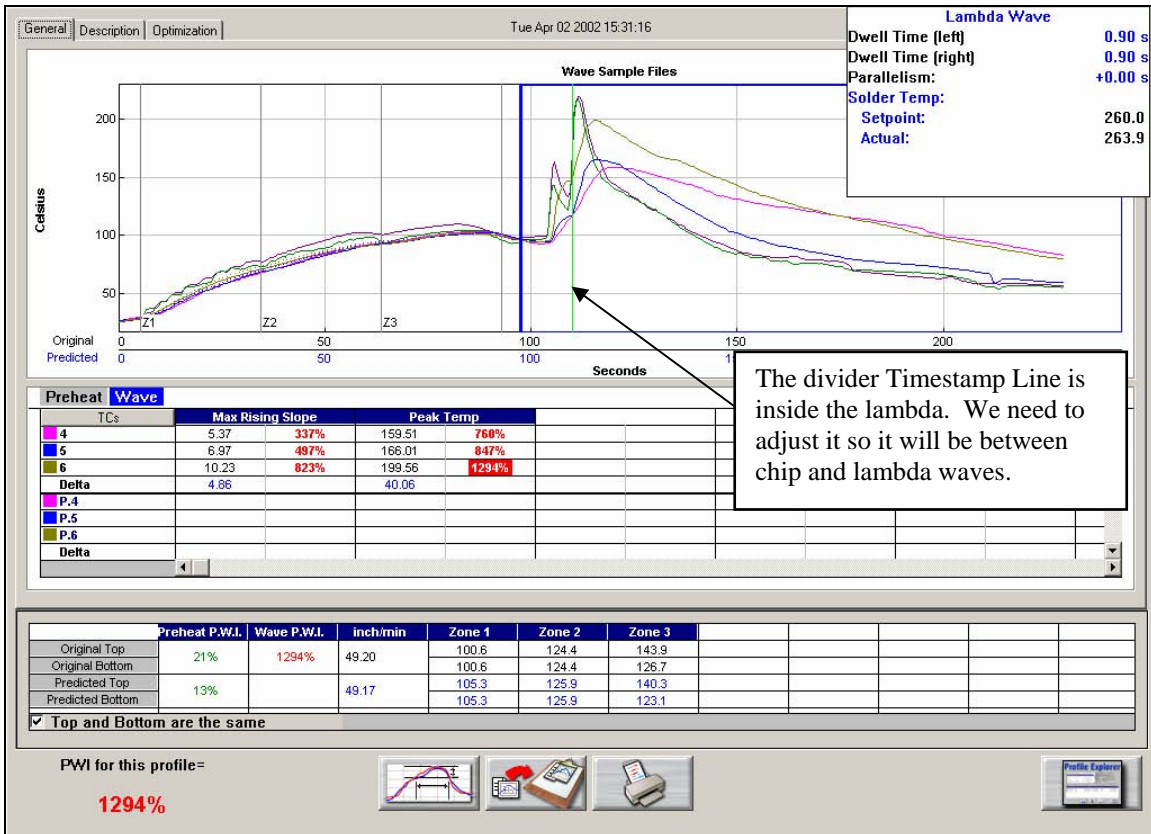

Figure 116
2. Launch the Graph Controller. To enable, Left-click outside the Graph area. See Figure 116.
When returned to the profile graph, you will see the *Wave TC's* and the *Divider Timestamp between Chip and Lambda Waves* line between waves is displayed (shown in light green). See Figure 116.
Only 1 wave is displayed even though there are really 2 waves present. See Figure 116.
The *Divider Timestamp between Chip and Lambda Waves* line is positioned incorrectly. It should be positioned between the Chip and Lambda Waves and not inside the Lambda wave as displayed. See Figure 116.
Launch the *Graph Controller*, to enable Left-click outside the Graph area. See Figure 116.